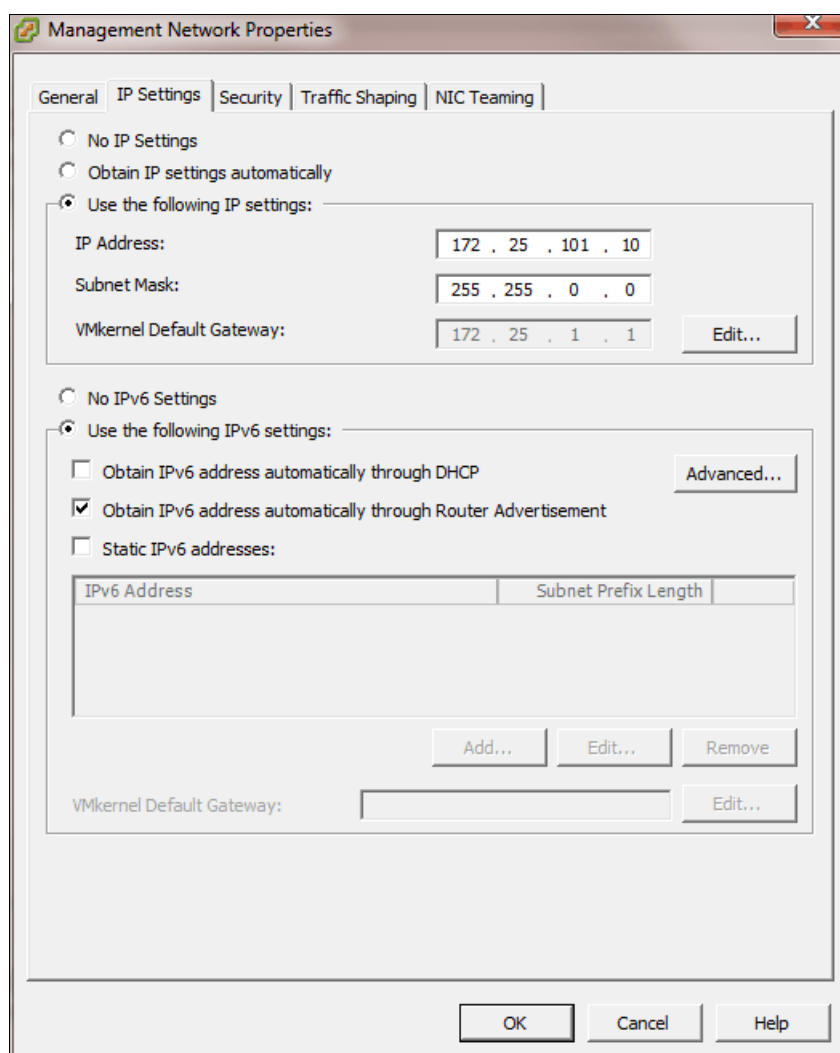

Figure 5-20 Management network IP address configuration
8. Set the IPv4 and IPv6 addresses in the following window, as indicated in Figure 5-20. Ensure that you also tag VLAN 4092 by inputting “4092” into the VLAN ID field on the General tab of Management Network Properties, not shown directly in Figure 5-20.